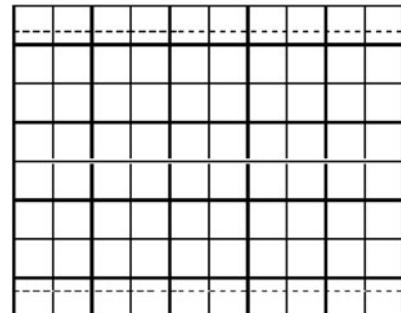

Figure L39-7
9. A square wave is made by a clock signal occurring at a steady frequency. Draw a representation of a square wave in the oscilloscope face presented in Figure L39-7.